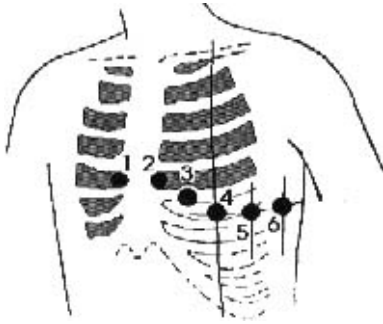

Figure 4
9.1 Chest Electrode( See Figure 4)